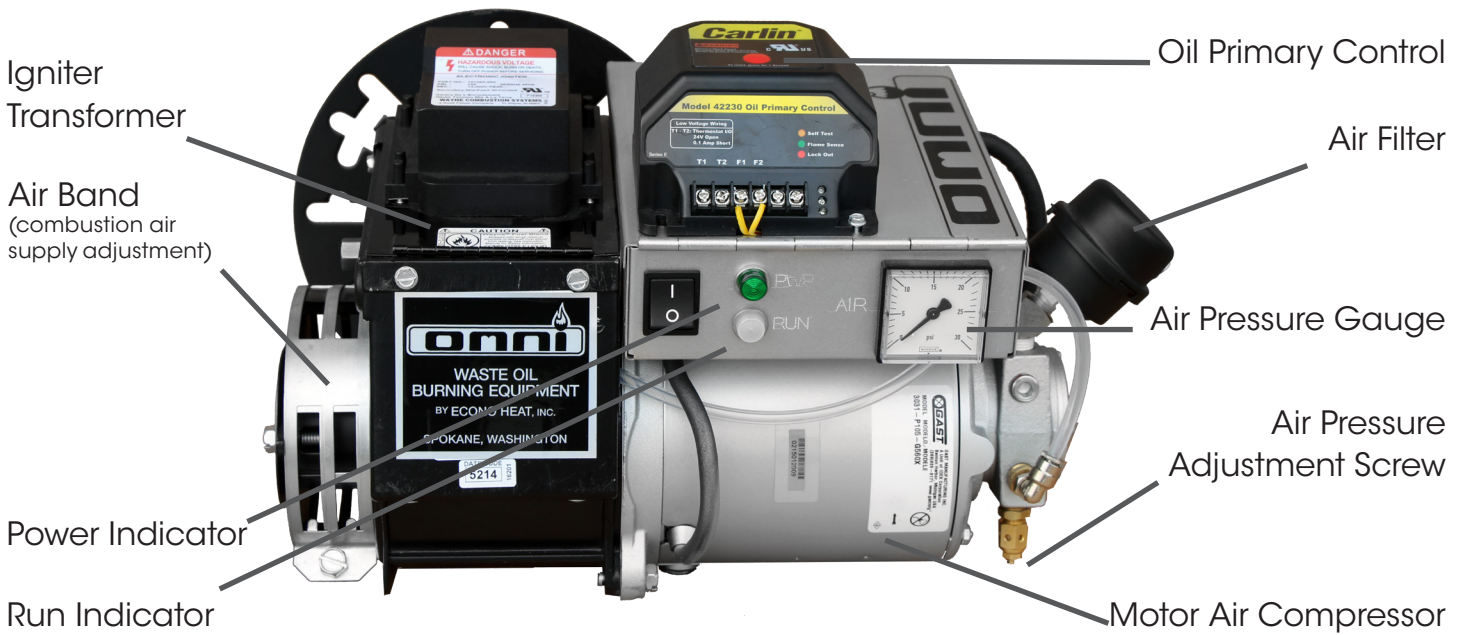

Figure 3 - Oil Burner (Back View Closed)
2. Wire low voltage thermostat into "T" marked terminals on oil primary control on burner (Box on burner gun assembly with red reset button - figure 3).
- **Igniter Transformer:** (figure 3) Supplies high voltage to the electrodes generating electrical arc igniting the oil.
- **Oil Valve:** (figure 3) energizes when burner is running and de-energizes when burner is not running eliminating bleed back of oil out of the Pre-heater block.
- **Oil Primary Control:** (figure 3) Controls the oil burner ignition. Checks for flame in the combustion chamber, if no flame is detected within 45 seconds, the oil primary will shutdown the oil burner. To restart the unit, reset the red button on the oil primary.
- **Burner Motor:** (figure 3) Motor turns the burner blower, fan and oil pump.
- **Power Indicator:** (figure 3) Indicates when power is present at the burner.
- **Run Indicator:** (figure 3) Indicates that the burner is ready for operation after the initial pre-heat time of approx. 5 minutes from initial power up.
4. Jump the "T" terminals (thermostat terminals) on the Oil Primary Control (figure 3). Once the burner is running, temporarily jump the "F" terminals on the Oil Primary, not before burner tries to run or operate. This will allow the burner to run during the pump priming process – **don't forget to remove jumpers when primed.**
6. Pre-set at factory combustion air band (figure 3) should be open approximately 1/2" or until flame is clear yellow, not orange. Opening the air band too far may cause delayed in starting or even prevent the flame from establishing.